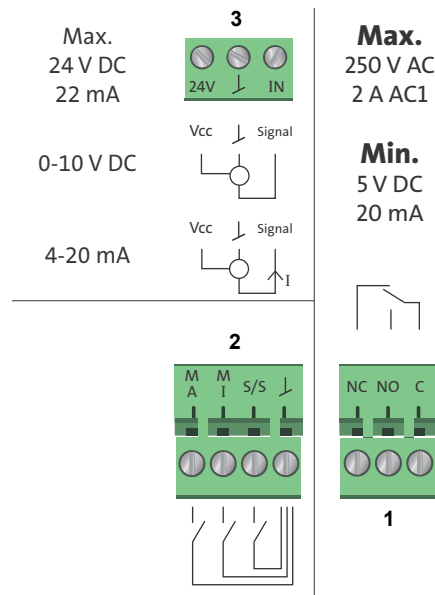

Fig. 12 Connection diagram
See fig. 12, pos. 1.
See fig. 12, pos. 2.
See fig. 12, pos. 3.